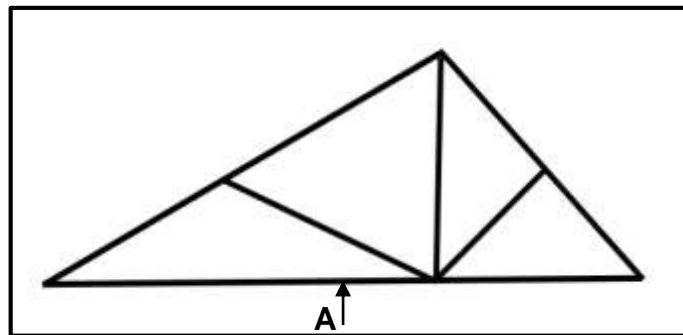

FIGURE 4.7
4.7 Identify the member indicated by **A** in the steel framework shown in FIGURE 4.7 below.